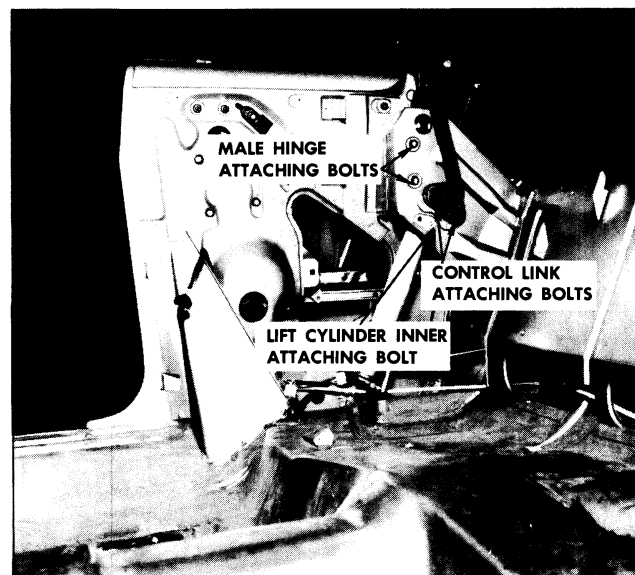

Fig. 21-56 Tempest Control Link Adjustment
6. Remove inner and outer bolt securing cylinder to male hinge (Fig. 21-56).